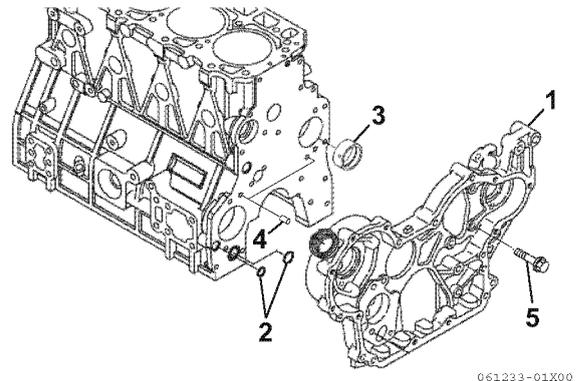

Figure 6-55
- Remove the bolts (5, **Figure 6-55**).
- Remove the gear case (1, **Figure 6-55**) from the cylinder block. Thoroughly clean all old sealant from the mating surfaces.
- Inspect and measure the camshaft bushing. See *Camshaft* on page 6-7 for the service limit. If damaged or worn beyond service limits, remove the camshaft bushing (3, **Figure 6-55**).
- 4TNV98C, 4TNV98CT:** Remove two O-rings (P20 and P14) (2, **Figure 6-55**) and two pins (4, **Figure 6-55**).